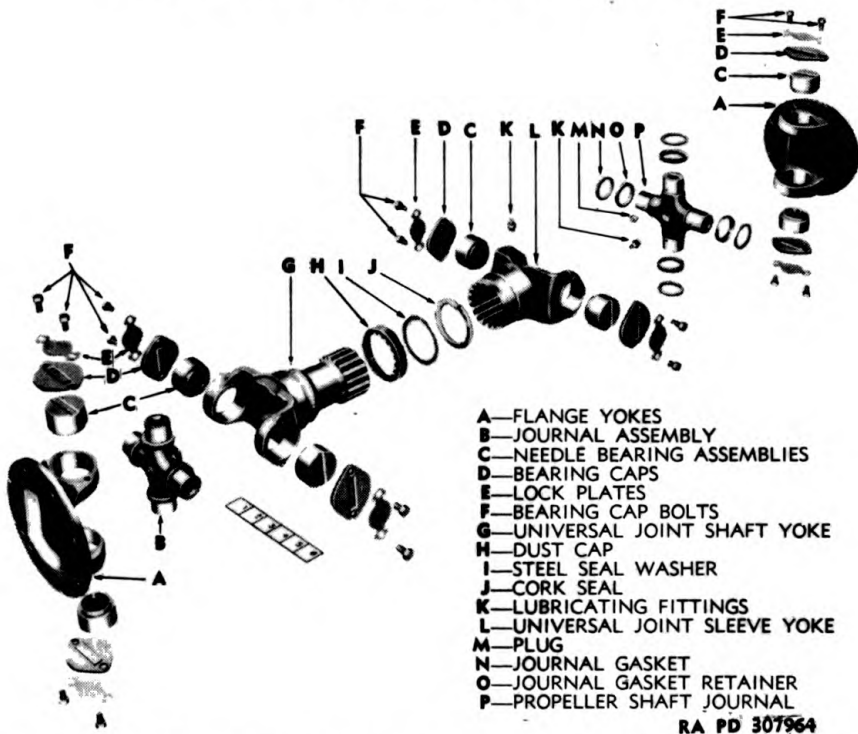

Figure 157 — Propeller Shaft Assembly Disassembled
a. Refer to figure 157 for identification of parts. Install one flange yoke and shaft yoke on one of the journal assemblies, the second flange yoke and sleeve yoke on the other journal assembly. Slip a cork seal onto inner end of each needle bearing assembly, then install a seal cup over each cork. Slip bearings onto ends of journals and into yokes. Place bearing caps over bearings with bars of caps engaging in slots in ends of bearings and secure each bearing cap on yokes with two cap screws and lock plate. After tightening cap screws, bend prongs of lock plate against heads of cap screws. Fill universal joints with lubricant. Make sure plugs or lubrication fittings are tightly installed. Slip dust cap onto shaft yoke (pronged side first), then slip steel seal washer and cork seal washer onto shaft yoke. These washers can be spread for installation. Lubricate splines and slip splined sleeve yoke onto shaft yoke. Screw dust cap firmly onto sleeve to hold seal washers against end of sleeve. Force lubricant into splines through fitting.